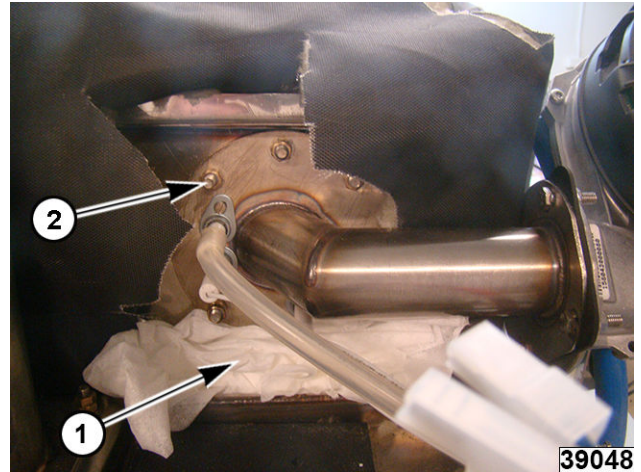

Fig. 103
NOTE: Place a clean rag (1, Fig. 103) over the open area to avoid nuts falling to where they can't be retrieved.
4. Remove (6) 8mm mounting nuts (2, Fig. 103).